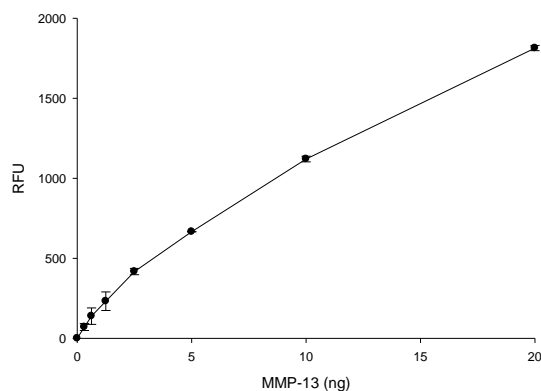

Figure 2. Sensitivity of the SensoLyte® Plus 520 MMP-13 assay.
- Determine the slope of the linear portion of the data plot. Obtain the reaction velocity (V) in RFU/min or RFU/sec.
- Plot data as RFU versus concentration of MMP (Figure 2).